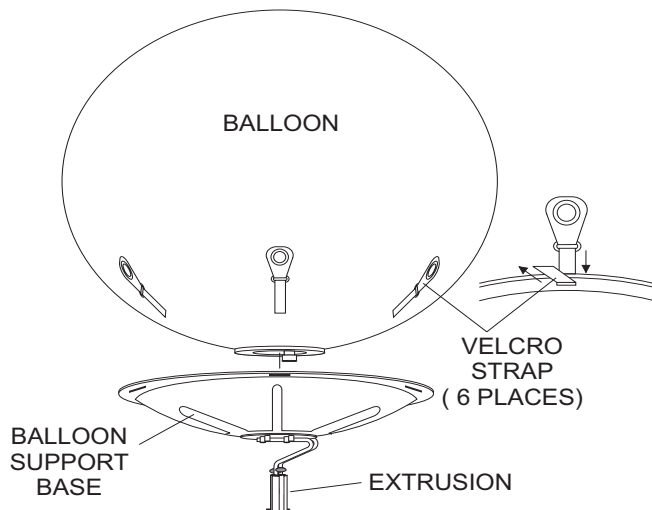

Figure 25. Attaching Balloon to Support Base (MB1000/MB1000W/MB400B- 54-inch Balloons)
2. Slowly invert the balloon and place over the installed balloon support base (Figure 25), making sure lamp fixture is facing down and the Velcro straps are aligned with the holes on the balloon support base. Insert Velcro strips into the holes and fasten securely.